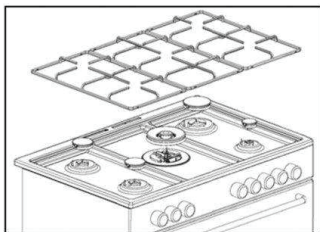

Fig. 10 (representation only)
- 2) Remove the grids from the work surface (Fig. 10).
- 3) Remove the burners (Fig. 10).